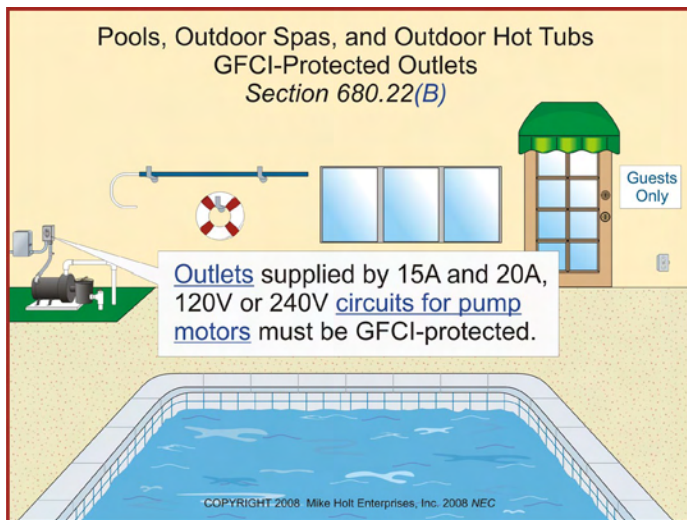

Figure 680-17
(5) Measurements. The receptacle distance is measured as the shortest path an appliance cord would follow without passing through a wall, doorway, or window.
(B) GFCI-Protected Motors. Outlets supplying pool pump motors for a permanently installed pool, outdoor spa, or outdoor hot tub from branch circuits rated 15A or 20A, 120V or 240V must be GFCI protected. **Figure 680-17**